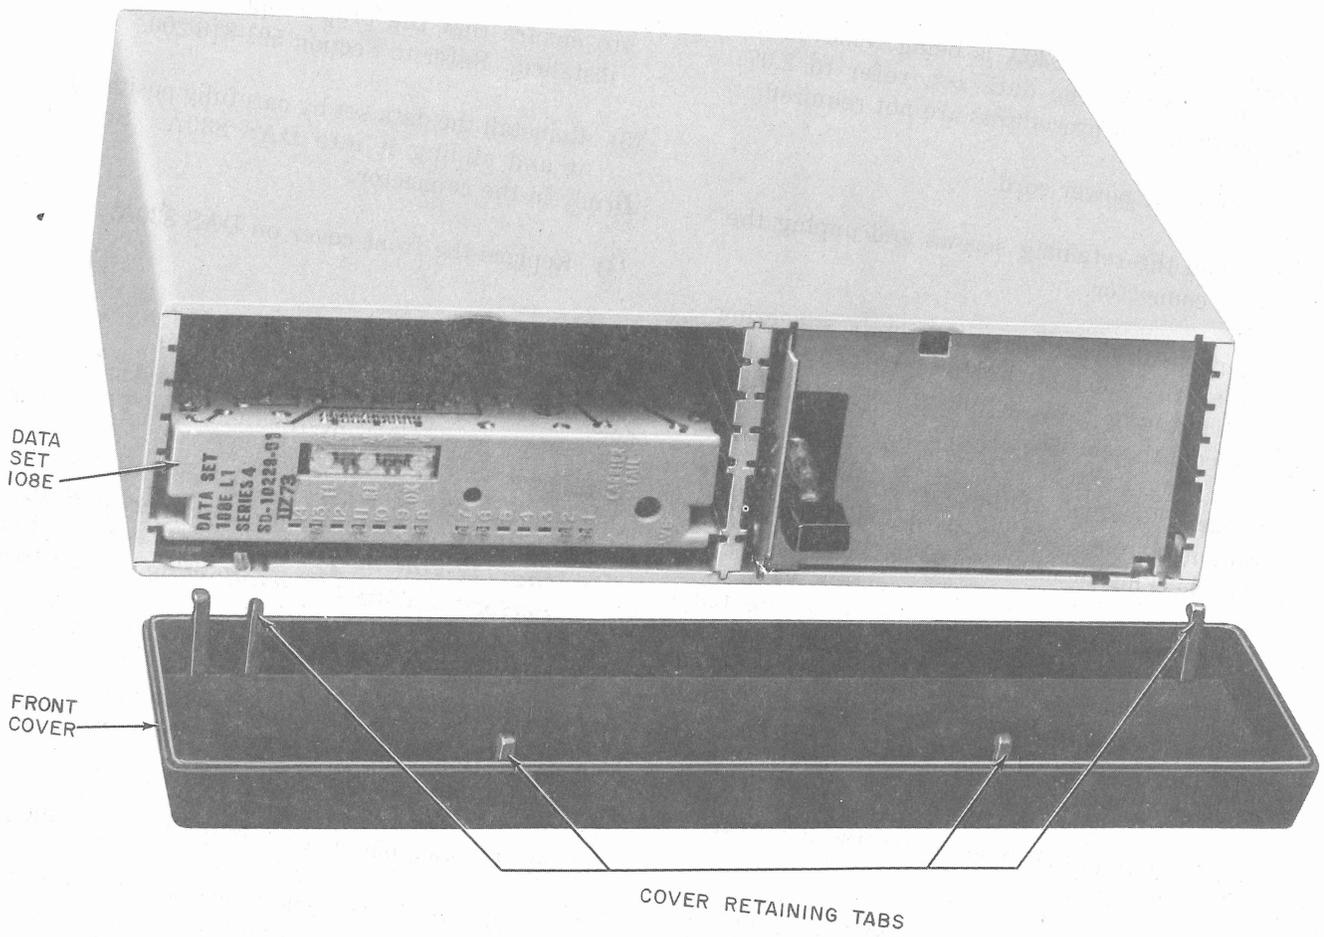

Fig. 5—DAS 830A—Front Cover Removal
- (1) Remove the front cover from DAS 830 by gently squeezing it at the top and bottom, to release the cover retaining tabs (Fig. 5), while pulling the cover away from the chassis.
- (2) ◆ Remove the data set (using a 748A tool).◆